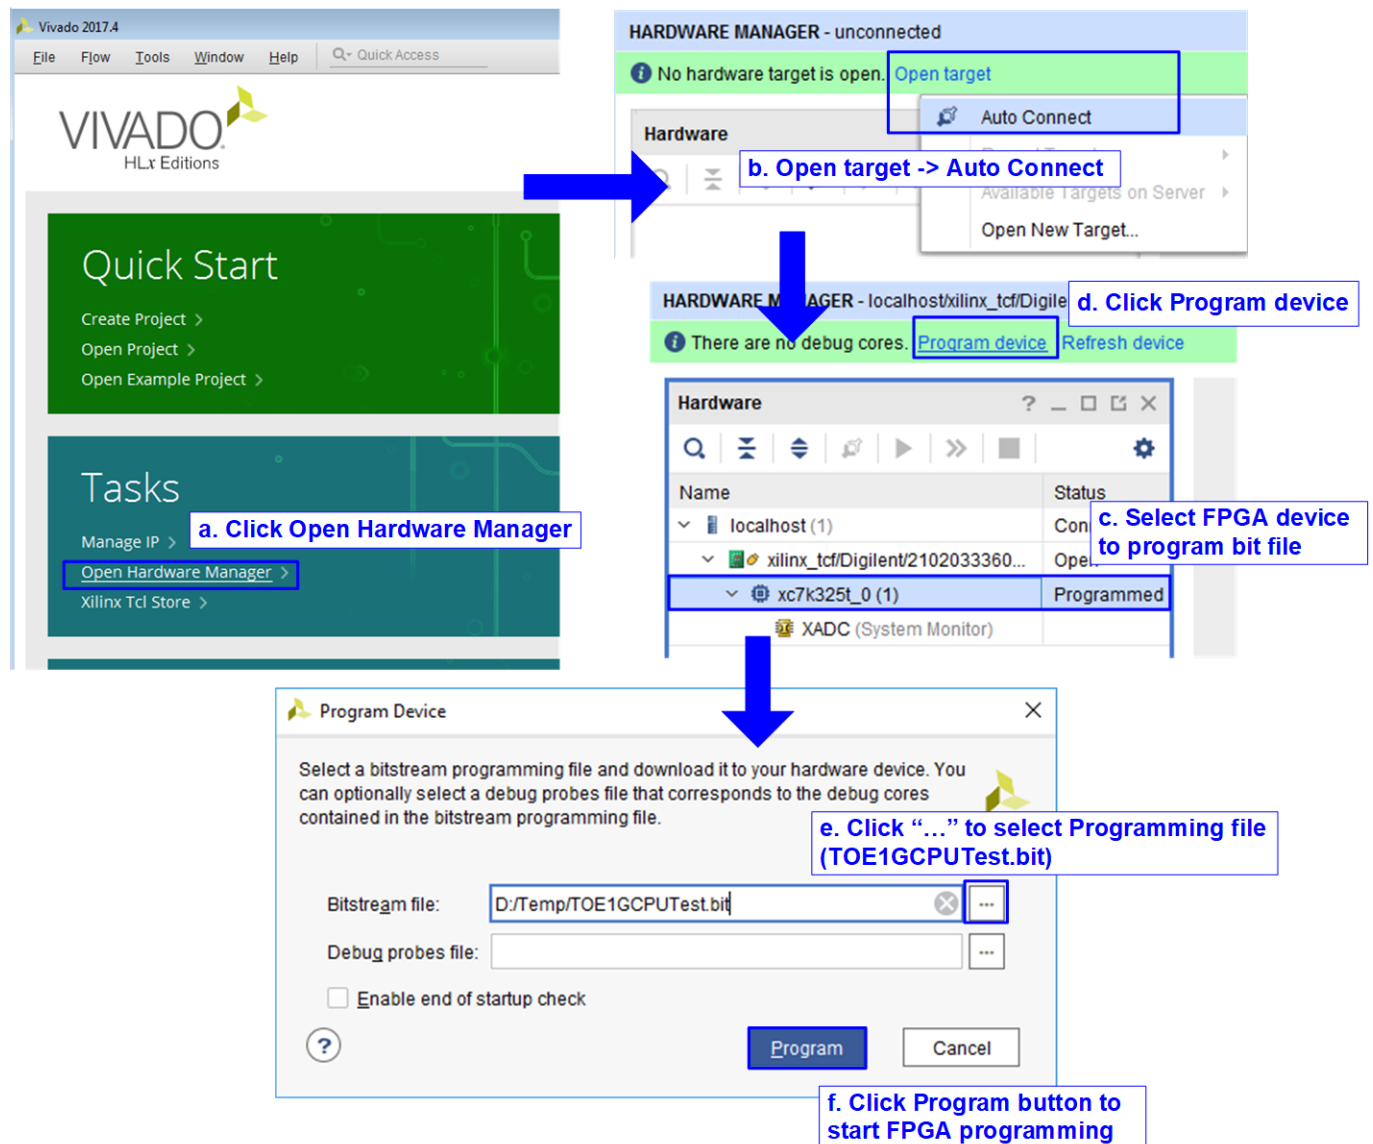

Figure 1-4 FPGA configuration by Vivado
7) Download configuration file and firmware to FPGA board, as shown in Figure 1-4.